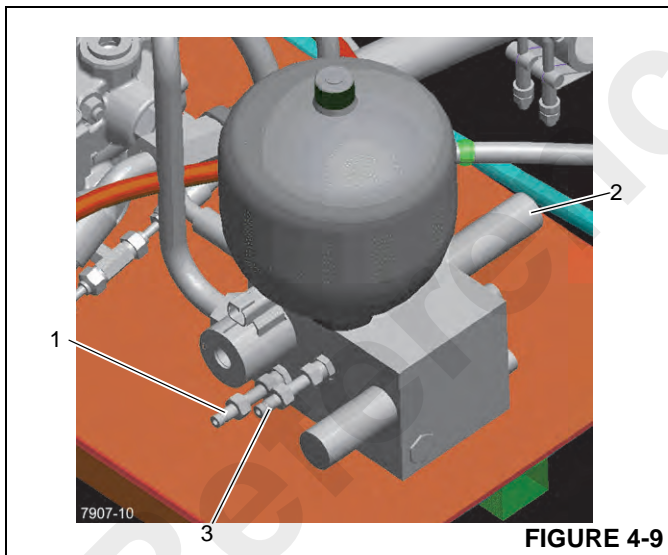

FIGURE 4-9
1. Install a 0 - 344.73 bar (0-5000 psi) pressure gauge on the G1 port (1, Figure 4-9) located on the brake/steering manifold.
6. Install a 0 - 344.73 bar (0-5000 psi) pressure gauge on the G2 port (3, Figure 4-9) located on the brake/steering manifold.
7. With the park brake ON, start the engine. Loosen jam nut on the UP10 pilot unloading valve (2, Figure 4-9). A 19 mm open end wrench is required for the jam nut.
8. Pump the brakes to lower the accumulator pressure below 110.32 bar (1600 psi). Keep pumping the brakes while another person adjusts the accumulator relief setting by turning the relief valve adjusting screw (2, Figure 4-9) until  $137.90 \pm 3.45$  bar ( $2000 \pm 50$  psi) is obtained on the pressure gauge; clockwise increases pressure, counterclockwise reduces the pressure. A 7mm hex wrench is required for the adjusting screw.